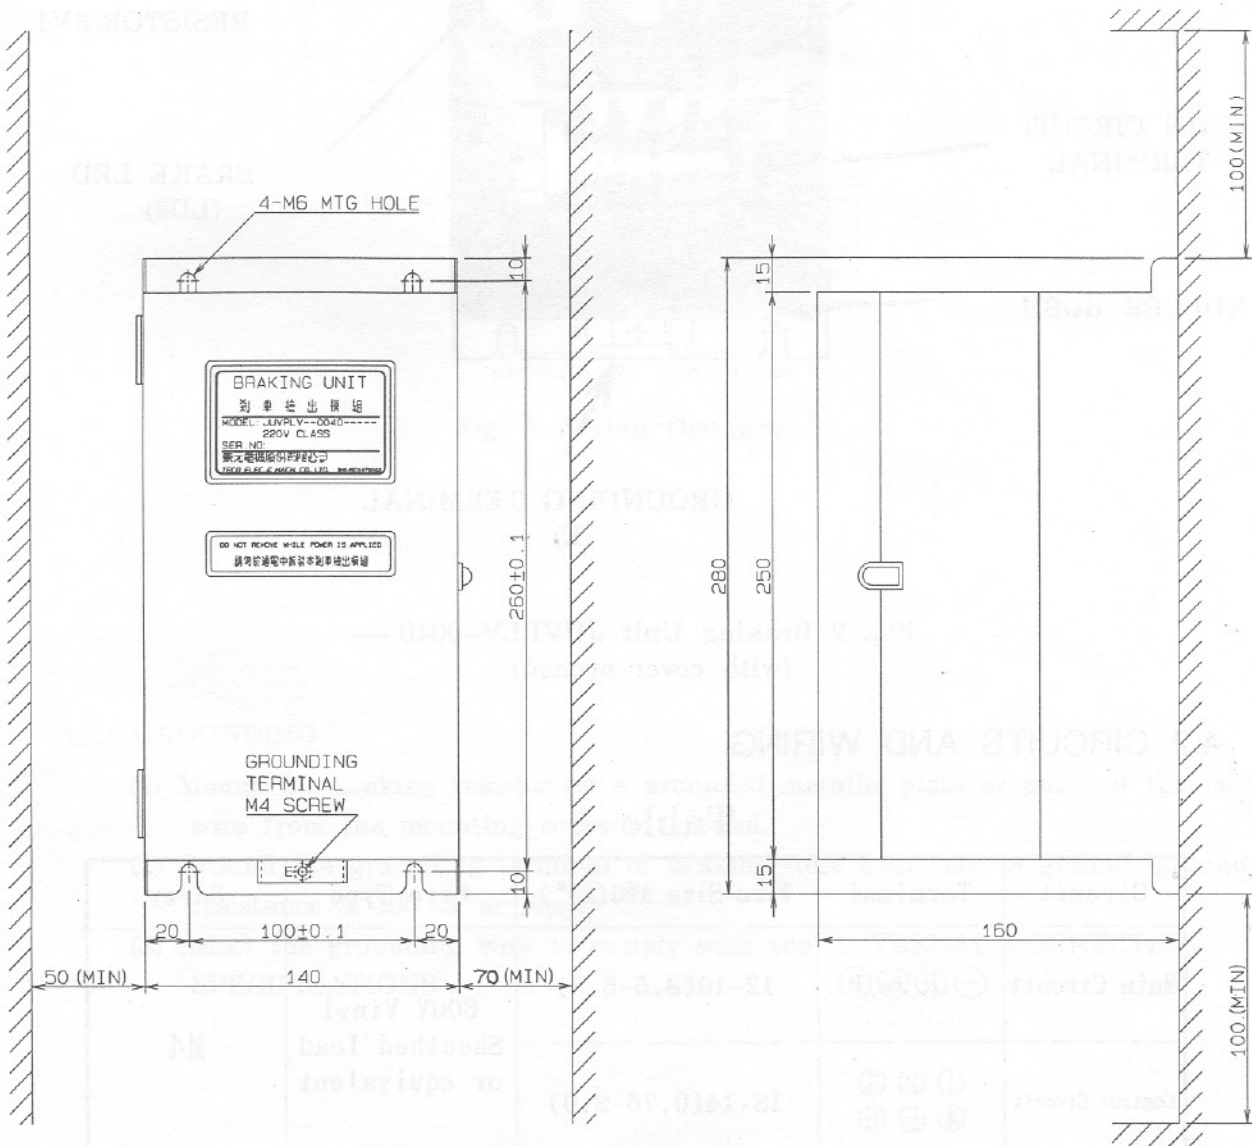

Fig. 1 Braking Unit Dimensions in mm
Location of the braking unit is important to achieve proper performance. please install the braking unit to comply with the requirements below. Fig. 1 shows the size of braking unit and mounting space needed.
- (1) Provide the mounting space shown in Fig 1.
- (2) Devices sensitive to heat should be kept away from the braking resistor generating heat.
- (3) The braking unit must be installed at places meeting the requirements in Par. 2. STORAGE.
- (4) Install the braking unit in the direction shown in Fig. 1 to avoid ventilation problems.